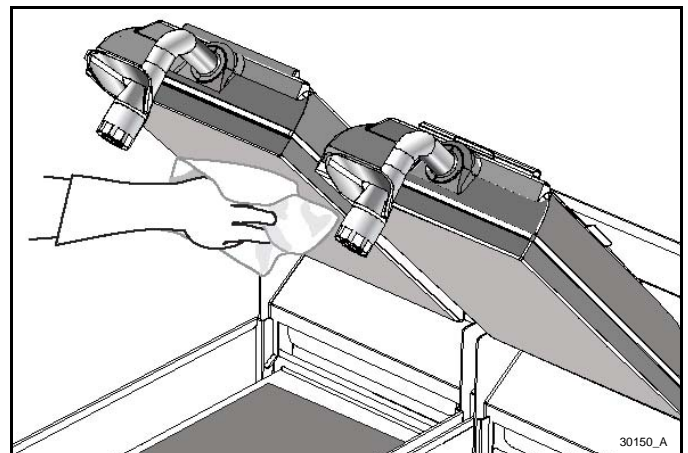

Figure-144
11. Rinse the upper release sheets with a separate sanitizer-soaked grill cloth. Wipe until the grill cleaner residue has been fully removed. See Figure-144.